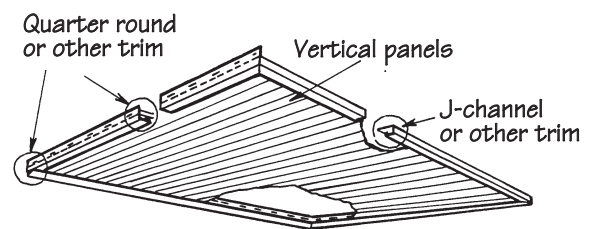

Figure 70.
1. Begin by installing receiving channels on all four sides of the porch (Fig. 70). If F-receivers are being used, nail them to the existing walls. If J-channels are being used, a nailing base will have to be installed.